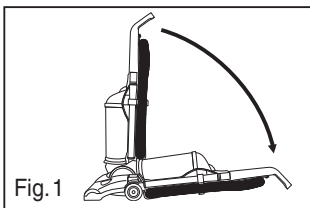

Fig. 1
- Step on handle release to lower handle flat onto floor (Fig. 1).